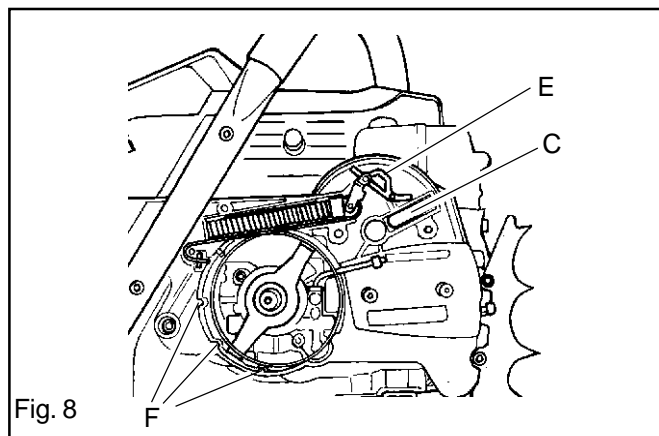

Fig. 8
2. Grease the moving parts of the toggle joint (E) and fit the unit on the chain saw. See fig. 8.
9. Check that the brake strap is correctly positioned in the recess (F) in the crankcase. See fig. 8.